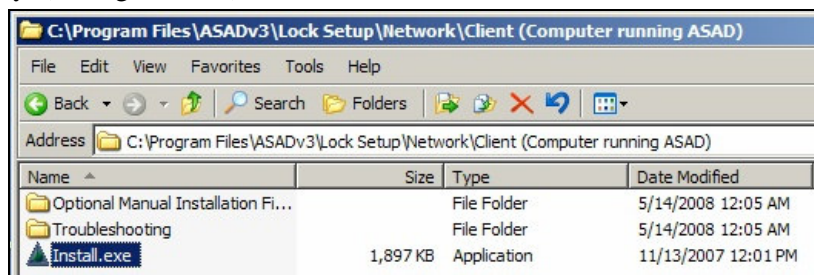

Figure C.10
- a) Run the 'Install.exe' program from the 'C:\Program Files\ASADv3\Lock Setup\Network\Client..' subdirectory. (see figure C.10)